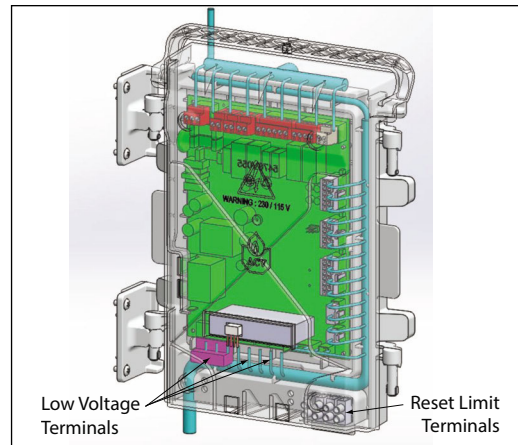

Figure 22: Low Voltage Connections
1. Connect the room thermostat or dry contact end switch to the low voltage terminal strip located on the bottom of the main control board as shown in Fig. 19 on page 31 & Fig 22.
1. Connect the DHW aquastat or temperature sensor to the low voltage terminal strip located on the bottom of the main control board as shown in Fig. 19 on page 31 & Fig. 22 on page 33.
1. Connect the system temperature sensor to the low voltage terminal strip on the wiring panel below the PRESTIGE control module, as shown in Fig. 19 on page 31 & Fig. 22 on page 33.